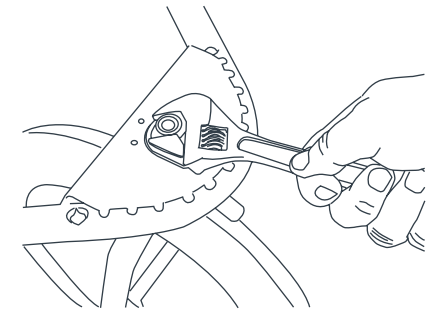

Fig. 21
21) • If you experience front wheel wobble that is beyond what is normal for use while walking or jogging you may have to adjust the front wheel housing nut. This nut is located under the footrest located at the front of the jogger. You can use a standard crescent wrench to tighten the nut (Fig. 21).